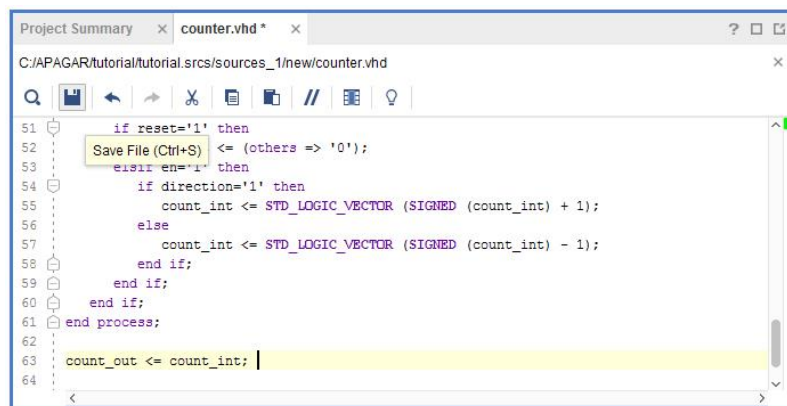

Figure 9
7. Save the file by selecting **File → Save File** or click in the save file icon in the horizontal toolbar of the **counter** design source file window (Figure 9)